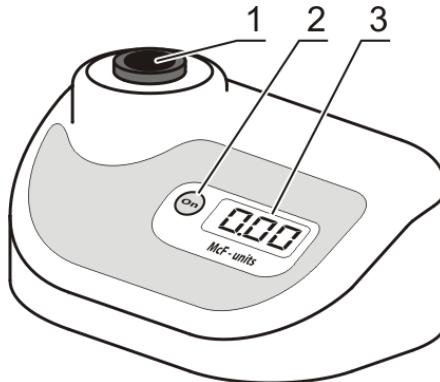

Figure 2. Front view
- Check if the A-16 adapter is in the socket (fig. 2/1). The device is calibrated for operation with the glass tubes 16 mm in external diameter. To use different tubes, recalibrate the unit, see the **Calibration** section of the manual.
5.3 The following indication may be shown on the display (fig. 2/3):
**Note.** The display of **DEN-1B** switches off if the socket is empty for longer than one minute. Press the **On** key (fig. 2/2) to activate the unit.
5.6 Insert the tube into the socket of densitometer (fig. 2/1). The McFarland value for the solution will be shown on the display (fig. 2/3).
6.6.2 **Transparent standard.** Display shows  $\square.\square\square$  indication. Insert standard for **0.00** value into the socket (fig. 2/1) of the unit. If the standard for 0.00 value is not available, fill the tube (of the kind that is used for operations) with distilled water. Use the tube as the **0.00** value standard. Press **Install** button to save transparent standard value. Display shows next required calibration value.
- 6.7 **Common calibration rules.** Display shows indication of necessary calibration value. Insert the necessary standard into the socket (fig. 2/1) of the unit and press the **Install** button to save the value for current standard.